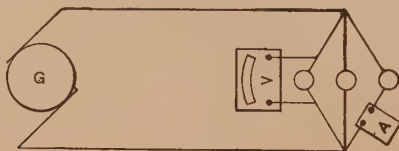

FIG. 49.
**Problem 33.** In Fig. 49, the three lamps have practically the same resistance. Voltmeter (V) reads 113 volts. Ammeter (A) reads 0.45 amp.